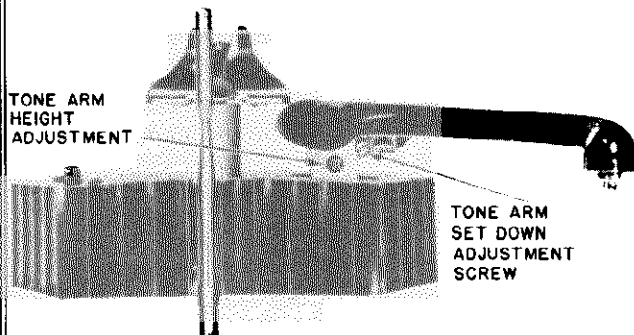

Fig. 2. Tone Arm Set Down and Height Adjustment.
The landing position of the needle on the record is determined by the setting of the tone arm set down adjustment screw (see Fig. 2). Clockwise rotation of the screw moves the tone arm in, while counter-clockwise rotation moves it out.
2. Turn the tone arm set down adjustment screw (see Fig. 2) as far as it will go in the clockwise direction.
6. Adjust the tone arm set down adjustment screw (see Fig. 2) for proper landing of the needle.